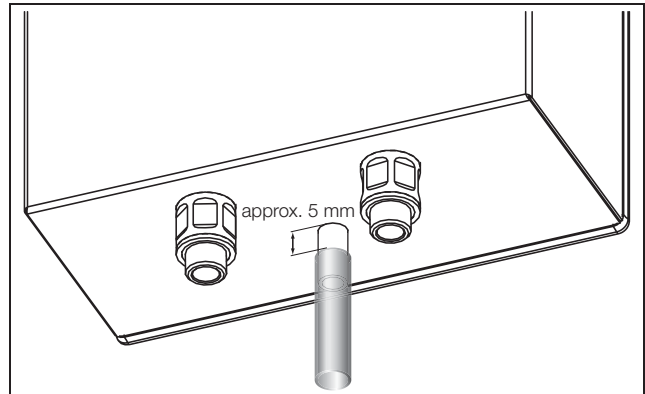

Fig. 8: Connecting the condensate water discharge
- Fit a suitable flexible hose (dia. 12 mm, 1/2") onto the condensate nozzle as shown in fig. 8 (bottom of the unit).
For simple cleaning, observe a distance of 5 mm between the end of the hose and the bottom of the unit (fig. 8).